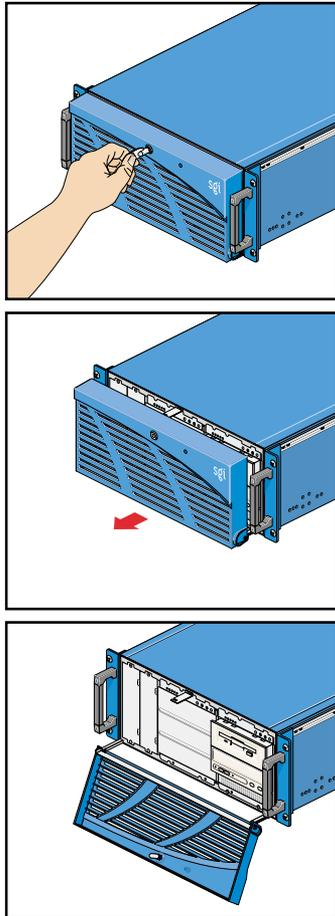

Figure 3 Opening a Node Bezel
8. Pull the bezel out and away from the node, and swing the bezel down, as shown in Figure 3.